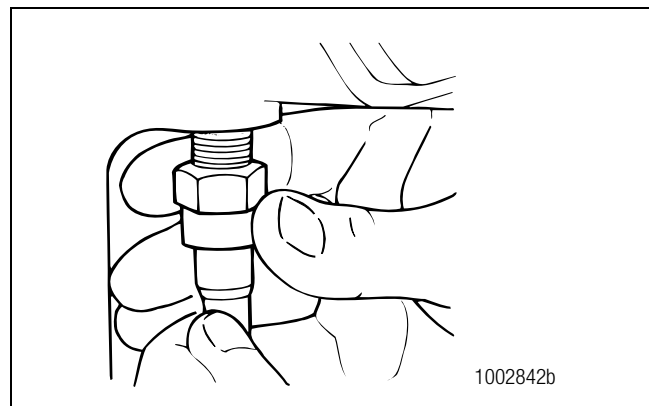

Figure 6.24
12. With the shift collar in the locked position, install the sensor switch into the threaded hole in the front of the carrier. Figure 6.24.